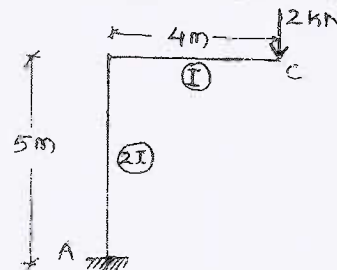

Fig.Q.5(b)
- b. Determine the vertical deflection at 'C' in the frame shown in Fig.Q.5(b). Take $E = 200 \times 10^6 \text{ kN/m}^2$ and $I = 3 \times 10^7 \text{ mm}^4$. Use Strain – Energy method. (10 Marks)